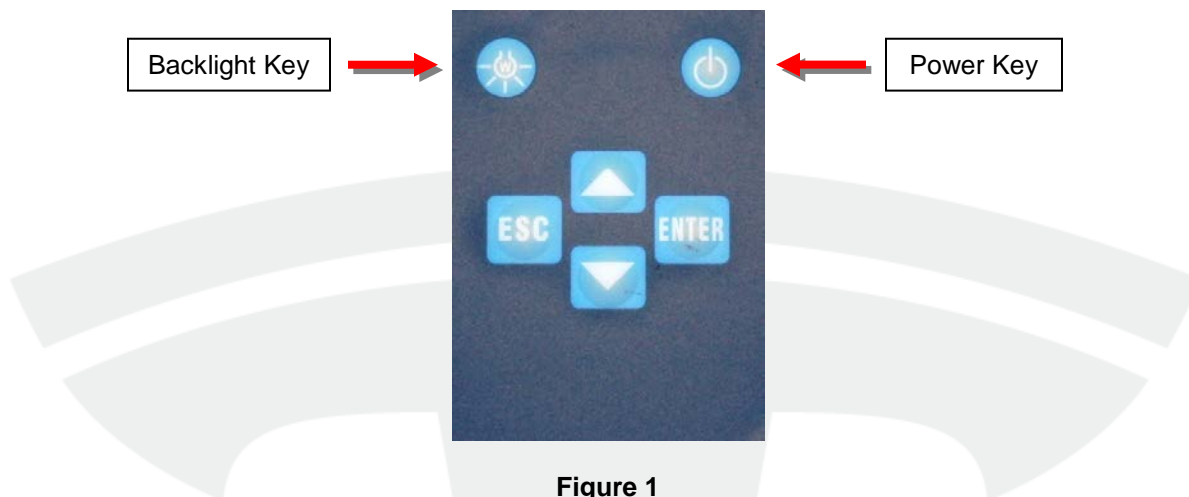

Figure 1
4. Turn on the TPMS tool (1013547-00-A) by pressing the Power button at the upper-right corner of the keypad (Figure 1).